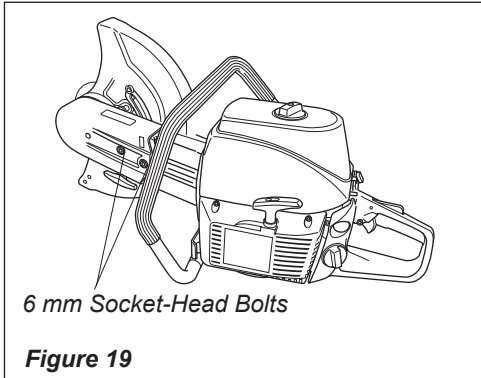

Figure 19
5. Making sure that the drive belt is fully engaged in the drive pulleys, slide the belt cover on and install the two socket-head bolts into the left-hand side of the mounting surface only until the bolts bottom on the belt cover. See Figure 19.